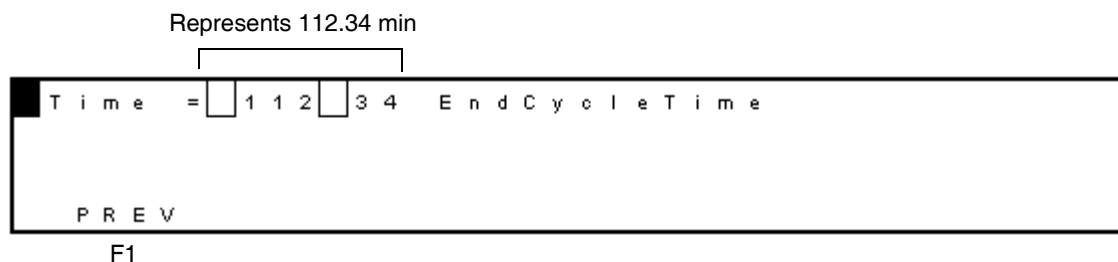

Figure 3-13 End Cycle Time Screen for an Empty Time File
- If the number under PROG is 01 or if the end cycle time is 000.01 (Figure 3-13), the time file is empty and ready to edit. Select **F1 PREV**.